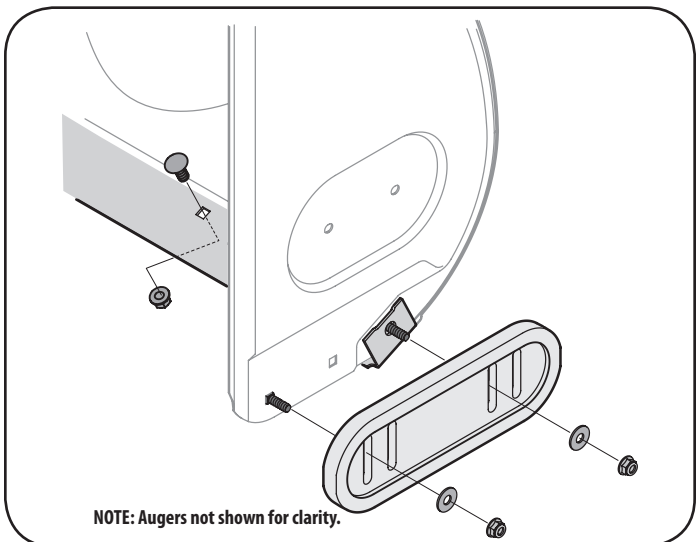

Figure 26
2. Reassemble new skid shoes with the four carriage bolts (two on each side), washers, and hex flange nuts. Refer to Figure 26.
2. Reassemble new shave plate, making sure heads of carriage bolts are to the inside of housing. Tighten securely. See Figure 26.